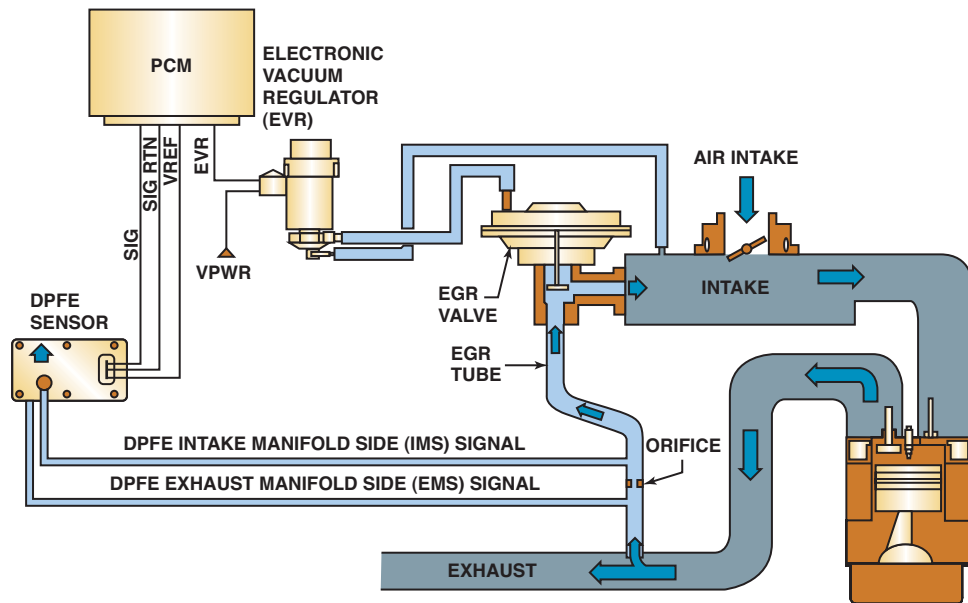

FIGURE 39-8 A DPFE sensor and related components.
- Most Fords use an EGR monitor test sensor called a **delta pressure feedback EGR (DPFE) sensor**. This sensor measures the pressure differential between two sides of a metered orifice positioned just below the EGR valve's exhaust side. Pressure between the orifice and the EGR valve decreases when the EGR opens because it becomes exposed to the lower pressure in the intake. The DPFE sensor recognizes this pressure drop, compares it to the relatively higher pressure on the exhaust side of the orifice, and signals the value of the pressure difference to the PCM. ● **SEE FIGURE 39-8.**